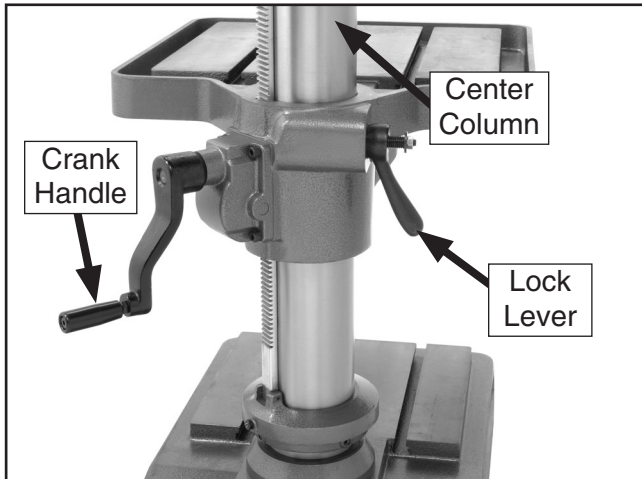

Figure 19. Table crank handle and lock lever.
1. Make sure the table lock lever is mounted on the locking nut as shown in **Figure 19**.
- Vertically by using the table crank handle (see **Figure 19**).